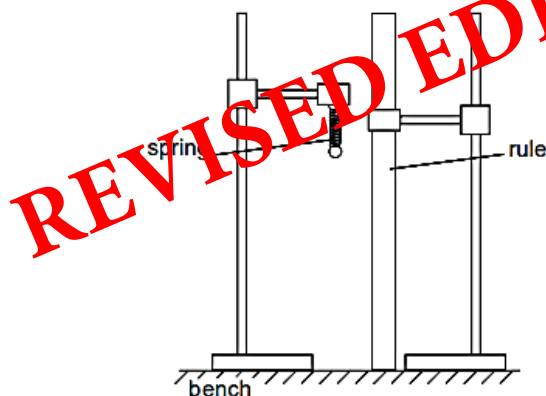

Fig. 3
- 3. The apparatus is to be set up for the candidates as shown in Fig. 3. The spring is to be sufficiently high above the laboratory bench that when the 5 N load is hung on the spring, the bottom of the load is about 10 cm above the surface of the bench.